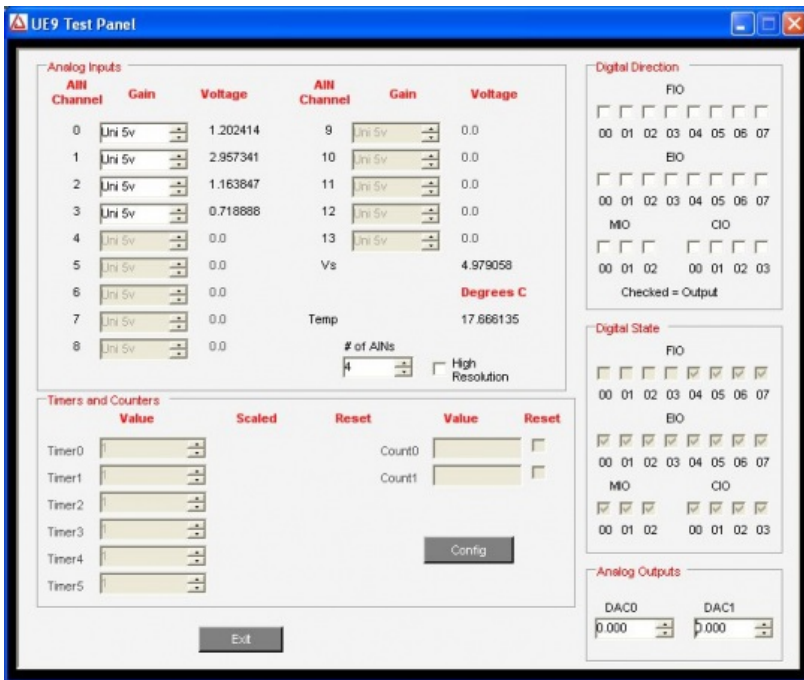

Figure 1.1-2. LJControlPanel Test Window
- Test: Opens the window shown in Figure 1.1-2. This window continuously writes to and reads from the selected LabJack.